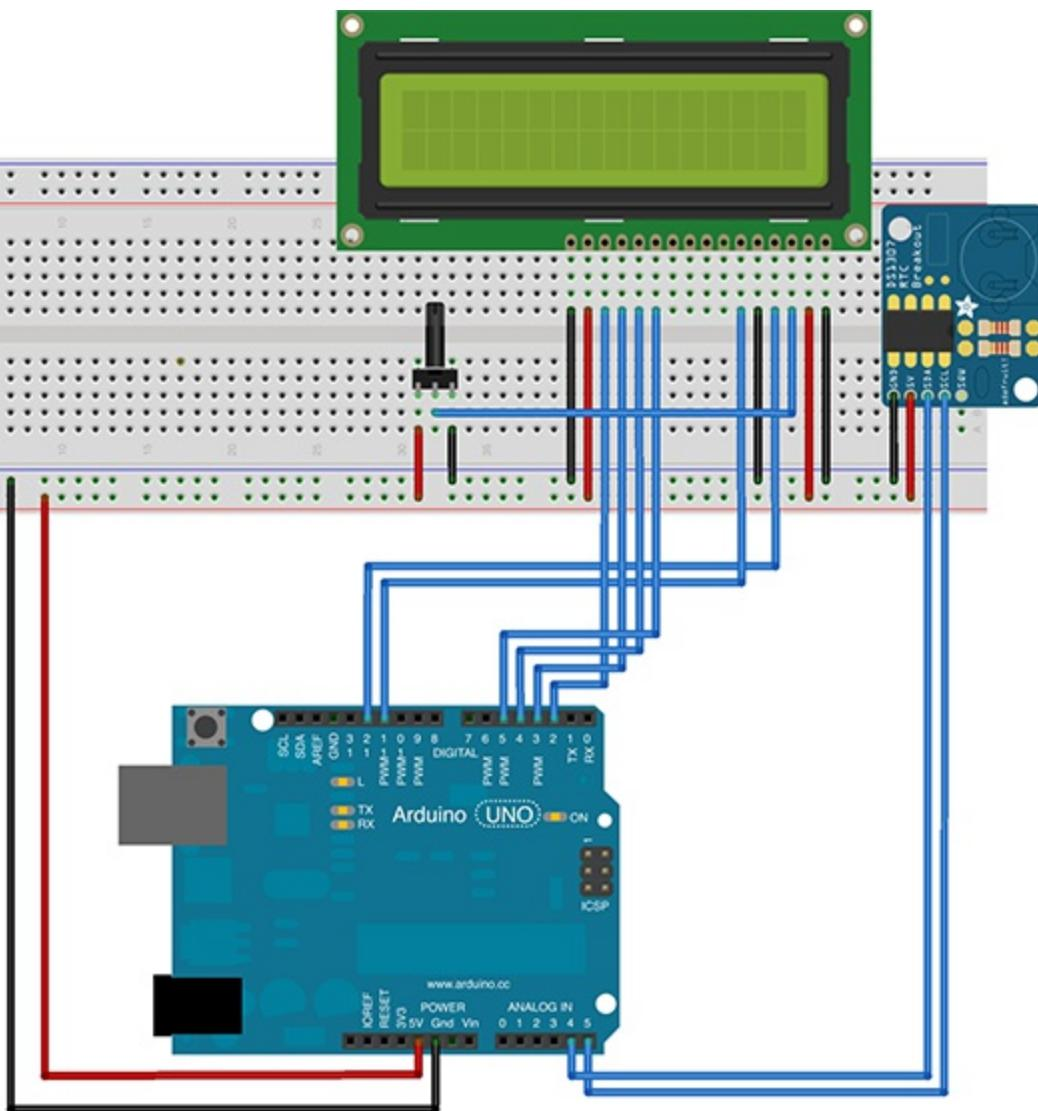

Figure 7-5: Parts placement for adding the 16 x 2 LCD display.
- 1. Add your LCD display and potentiometer to your breadboard roughly in the positions shown in Figure 7-5.**
When this code is uploaded, you should see the message “It’s Alive!” displayed for a half-second on the LCD. If you don’t see anything, or if the display has garbled characters, you’ve connected something incorrectly. Go back to the wiring table (shown earlier, in Step 4) and Figure 7-5.